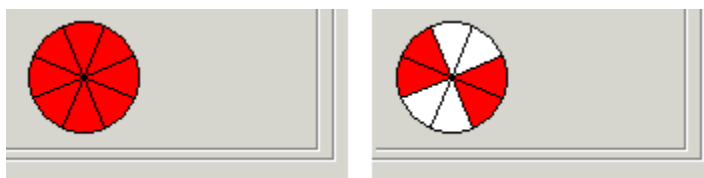

Figure 12-3: Setting the direction for Object Tracking
5. If the direction of moving objects is significant, use the **Direction** indicator in the Object Properties area to define the trigger direction(s). De-select the segments of the **Direction** indicator, for which you do not want VMD events triggered. Initially all directions are selected (coloured red), so movement in any direction triggers a VMD event. As you de-select direction segments, they turn white. Figure 12-3 shows how you might configure Object Tracking to detect objects moving from right to left, front to back or any direction in between.